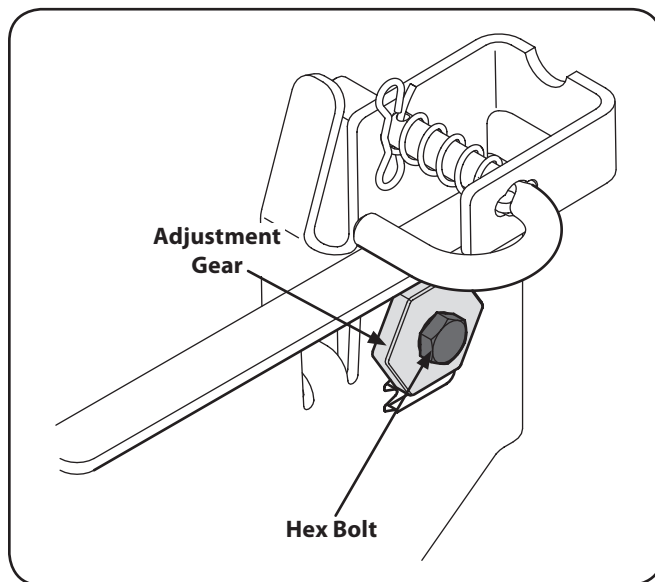

Figure 6-4
3. Loosen, but do NOT remove, the hex bolt on the rear left deck hanger link. See Figure 6-4.